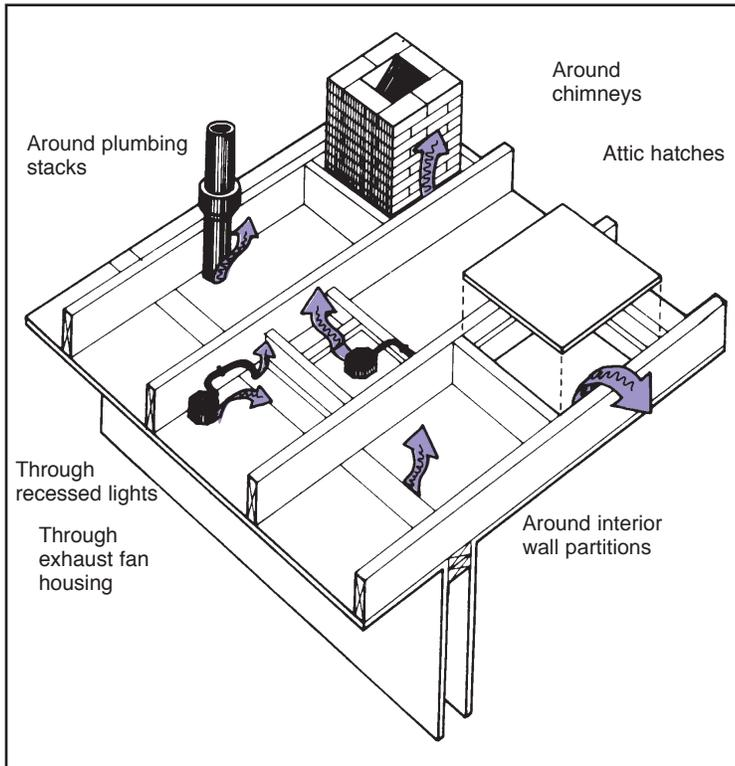

Fig. E-42: Potential air-infiltration/heat-leakage points in attics
Ceiling penetrations (see Figure E-42)
- Attic access panels: Insulate snugly with a minimum of R-20 rigid board insulation, add weather stripping, and secure to ceiling trim. Ideally, specify garage access if possible (see Figure E-42).